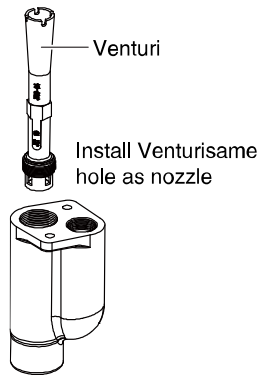

Figure 4
4. Install the venturi in the ejector body. The venturi threads into the second set of threads in the ejector discharge port (it threads in over the nozzle). The end of the venturi will extend out of the port when it is installed (See Figure 4).